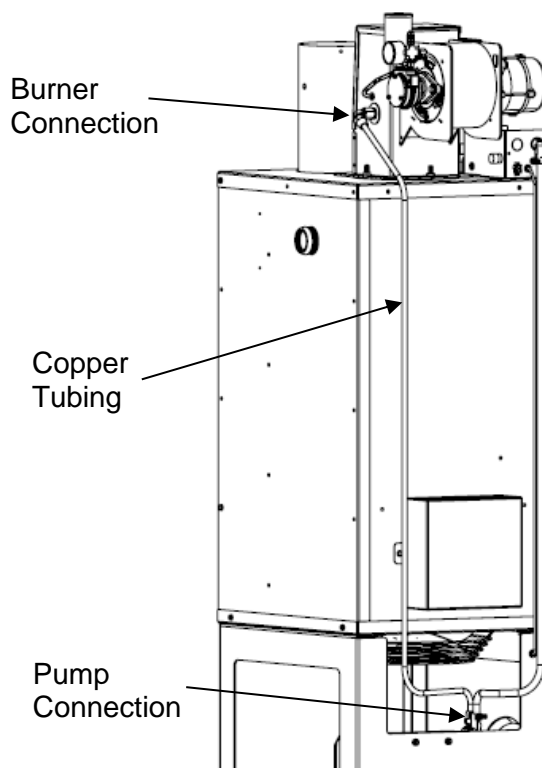

Figure 2.4 – Installing the Fuel Tubing
11. Unroll and route the tubing around the Clean Out Cover and up the back side of the Cabinet to the inlet elbow fitting on the side of the burner. Refer to Figure 2.4. NOTE: Be careful not to kink the tubing.